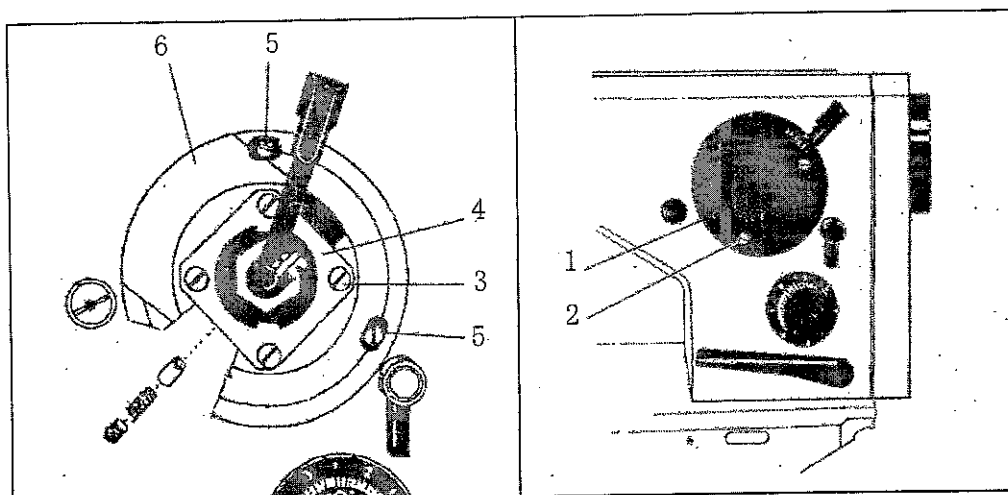

Fig.19
2) The needle punches transversely into the center of the needle plate slot position adjustment (Fig.19)
28、 The needle base point offset adjustment(Fig.19)